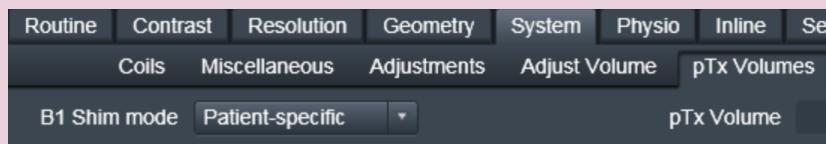

Figure 14. Location of the “B1 shim mode” switch
- Set the B1 shim mode by going to System > pTx Volumes and set the B1 Shim mode to Patient-specific. See Figure 14.